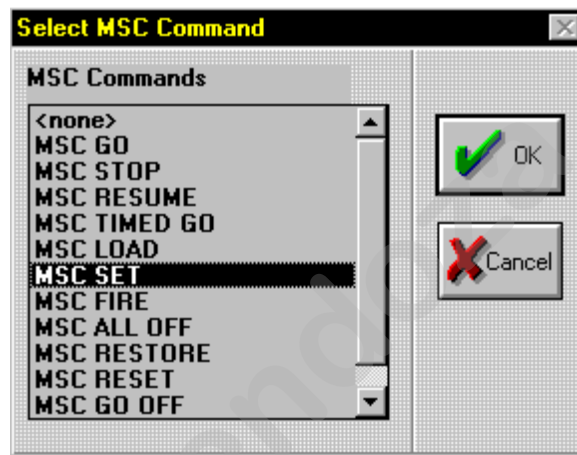

Figure 8.18. Select MSC Command Dialogue Box
3. Select **MSC SET** and click **OK**. Refer to Figure 8.18.